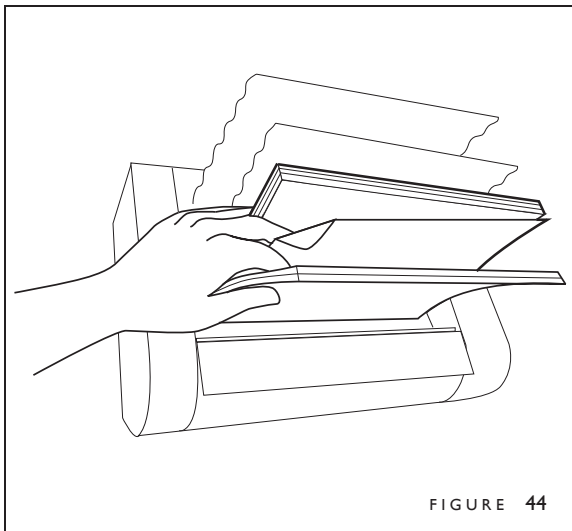

FIGURE 44
5. While the binder is re-melting the spine adhesive, pinch the front and back portions of the document with one hand, leaving the bent page free (figure 44). When the clamps start to open and the display reads "EDIT NOW," immediately pull the bent page from the document. (Holding the front and back portions of your document keeps the remaining pages in place.) If the page doesn't remove easily the first time, simply repeat this step.